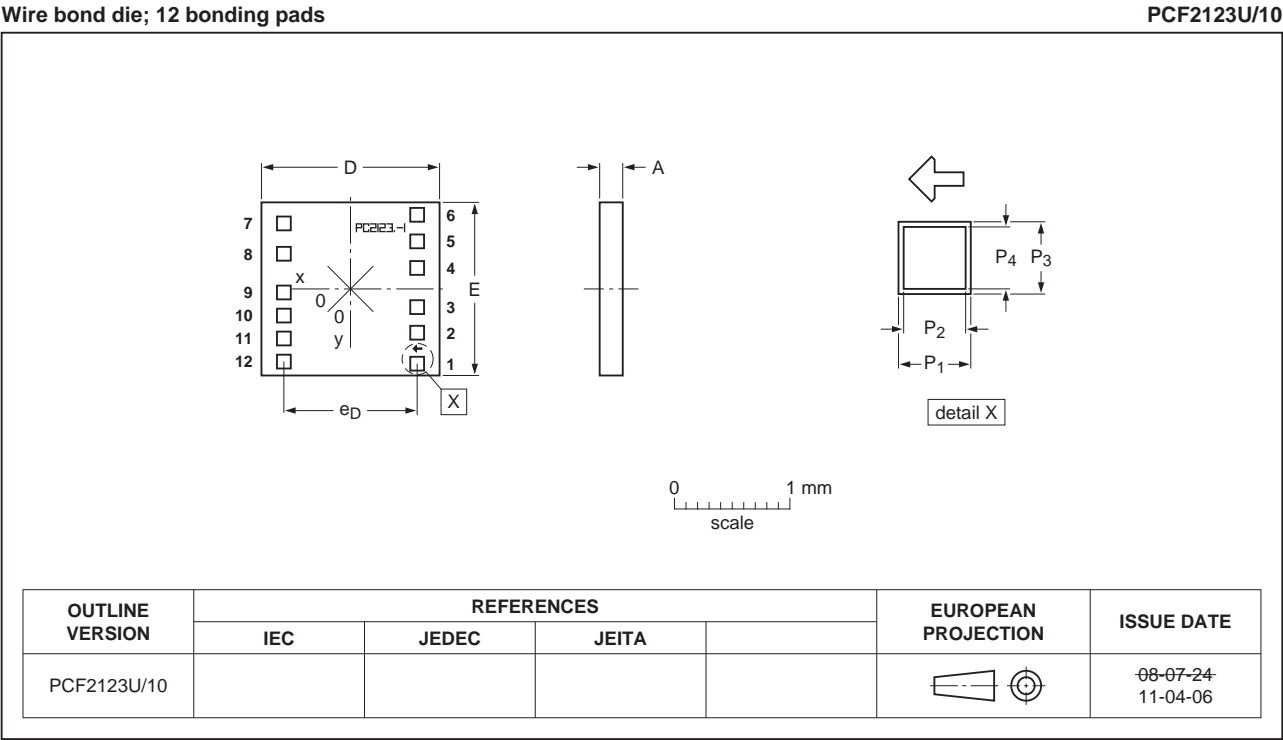
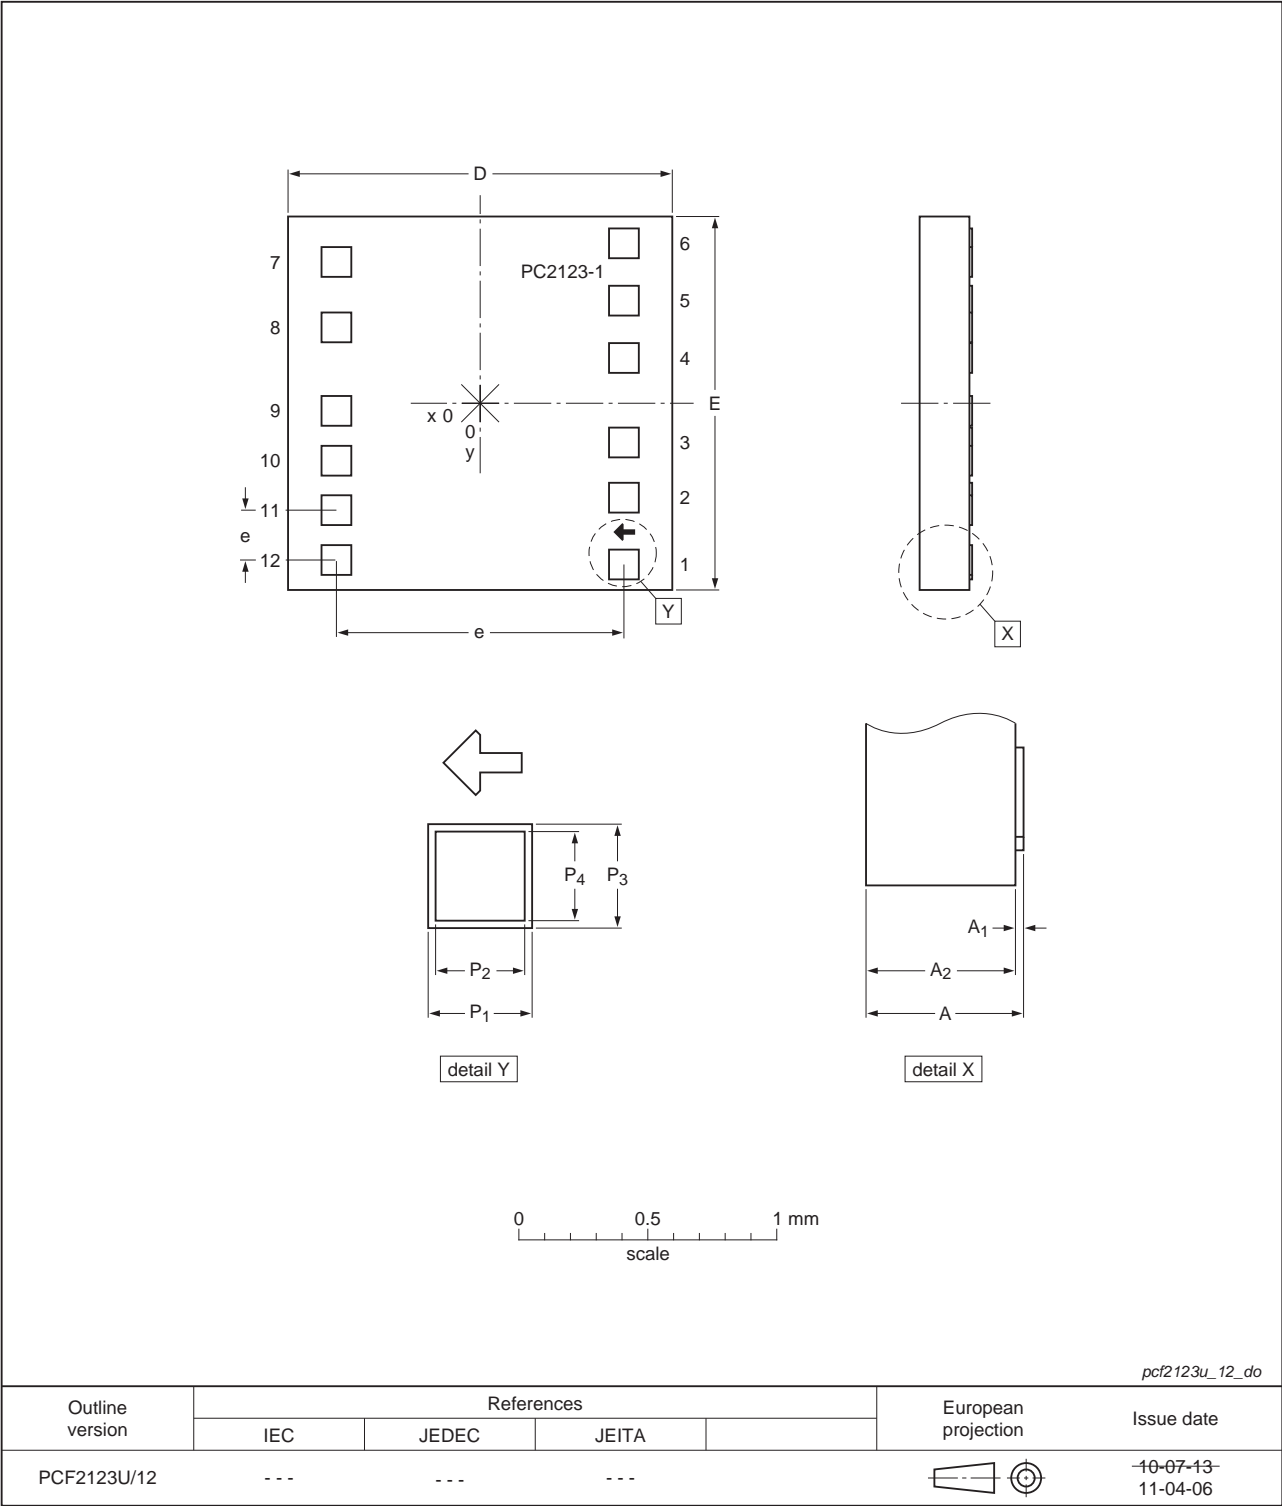

Fig 33. Bare die outline PCF2123U/10 of PCF2123U/5GA/1 and PCF2123U/10AA/1 (for dimensions see Table 47)
Fig 34. Bare die outline PCF2123U/12 of PCF2123U/12AA/1 and PCF2123U/12HA/1 (for dimensions see Table 48)
[3] P1 and P3: pad size.[4] P2 and P4: bump size.**Table 49. Bump locations of all PCF2123U types**All x/y coordinates represent the position of the center of each pad with respect to the center (x/y = 0) of the chip; see Figure 33 and Figure 34.
- [1] The x/y coordinates of the alignment mark location represent the position of the REF point (see Figure 35) with respect to the center (x/y = 0) of the chip; see Figure 33 and Figure 34.